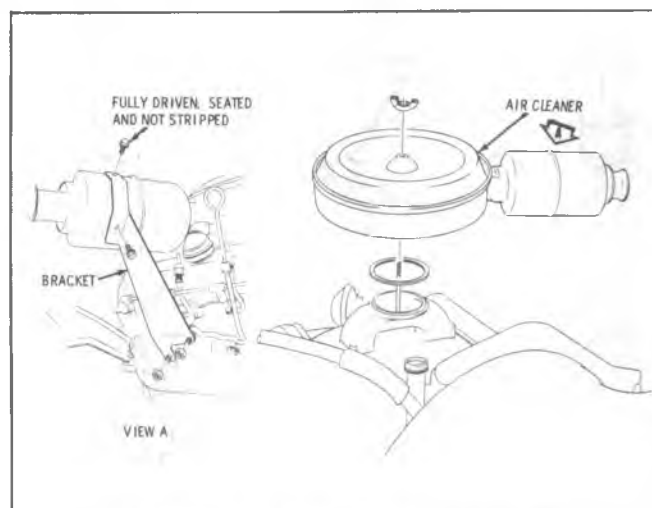

Fig. 6A6-17--Air Cleaner Attachment
1. Remove air cleaner. (Fig. 6A6-17).